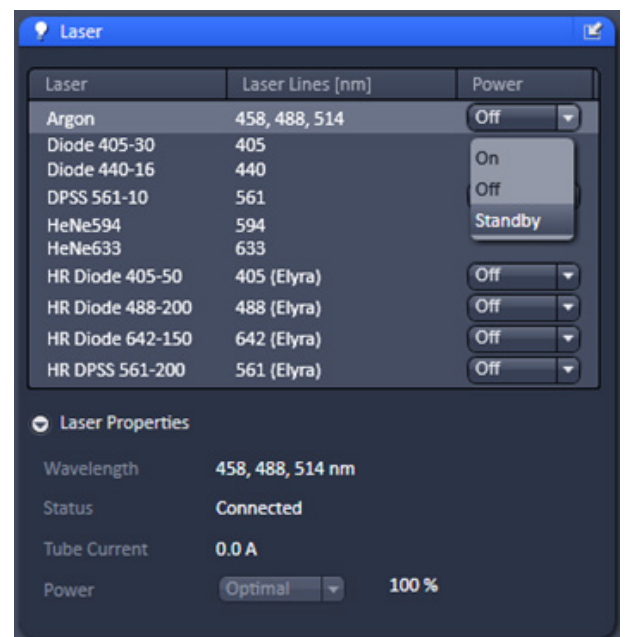

Fig. 90 Laser tool window showing the status and options for the Argon laser
3. The laser is represented in the **Laser** tool window (Fig. 90). A laser warning triangle is depicted next to the word Argon if the laser is in **Standby** or **On**. The laser is started by either choosing On or Standby in the Power drop down menu. The Laser Properties panel shows the status of the laser (**Warming up**) and a time countdown indicates the time still needed for the warm up of the laser until it is either **On** or in **Standby**. During this time and while in Standby the laser wavelengths are marked in red in the Channels tool window to indicate that the laser is not yet operating at its optimal power setting. Once the laser is in **Standby** or **On** its status changes to **Ready**.